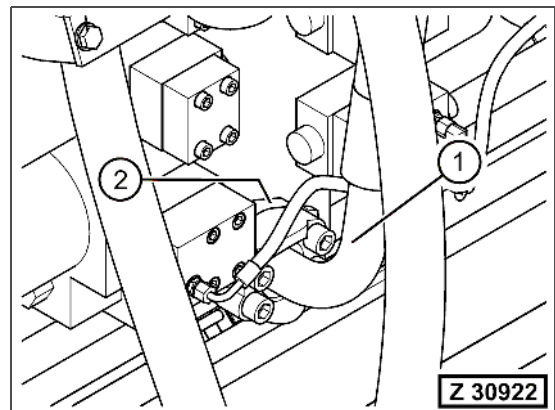
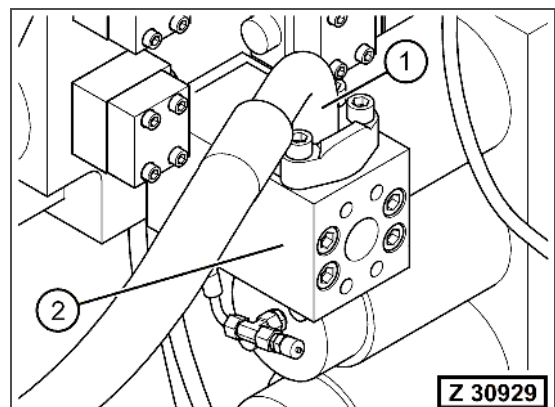

Fig. 3-314 Main control valve block I and III
Fig. 3-315 Main control valve block II only
7. Disconnect two hydraulic-pressure hoses (Fig. 3-314, Pos. 1) from the main control valve blocks (each center, top and bottom. Also refer to Fig. 3-315).
Remove the intermediate flange (Fig. 3-314, Pos. 2).
REMARKS: Note the different installation situation of the lower hydraulic-pressure hose at the main control valve block II (see Fig. 3-315).
Fig. 3-315 shows the different installation situation of the lower hydraulic-pressure hose at the main control valve block II.
Disconnect the hydraulic-pressure hose (Fig. 3-315, Pos. 1) from the block (Fig. 3-315, Pos. 2).